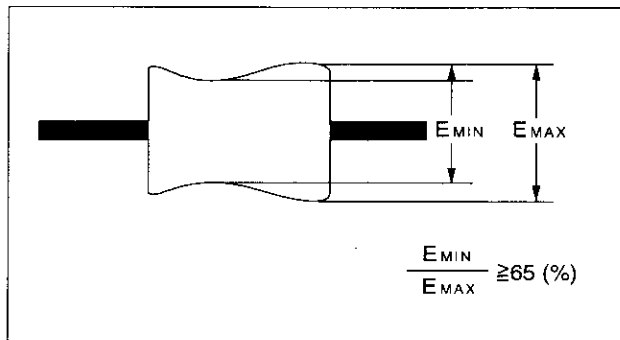

Figure 9
2. Ascertain that the envelope maximum to minimum ratio is 65% or more. (Figure 9)